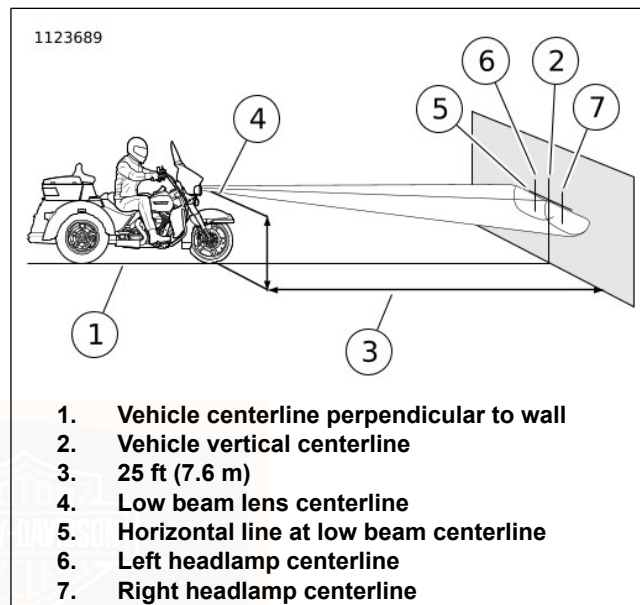

Figure 88. Headlamp Alignment: Dual LED
See Figure 88. Park the motorcycle on a line (1) perpendicular to the wall.